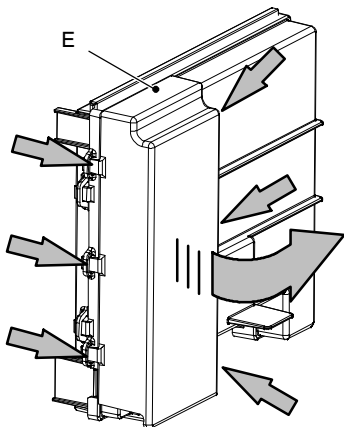

Fig. 2.6
- 2 To remove the terminal block lid *E* (Fig. 2.6), free the front hooks.
- 6 Remove the terminal block lid *E* (Fig. 2.6).